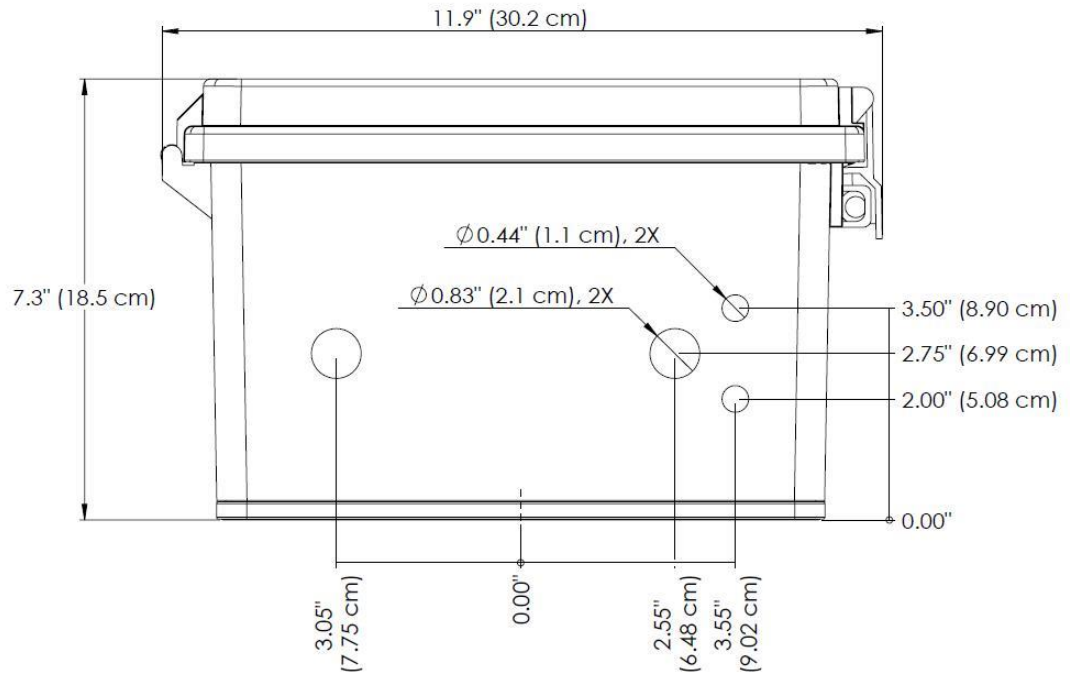

**Figure 1. Wall-Mount Enclosure Dimensions (Front View).**
**1. Mounting.** The back of the enclosure has three holes at the top and three holes at the bottom for mounting bolts (Figure 1). The holes are 1/4" in diameter and should be used with stainless steel bolts and washers.